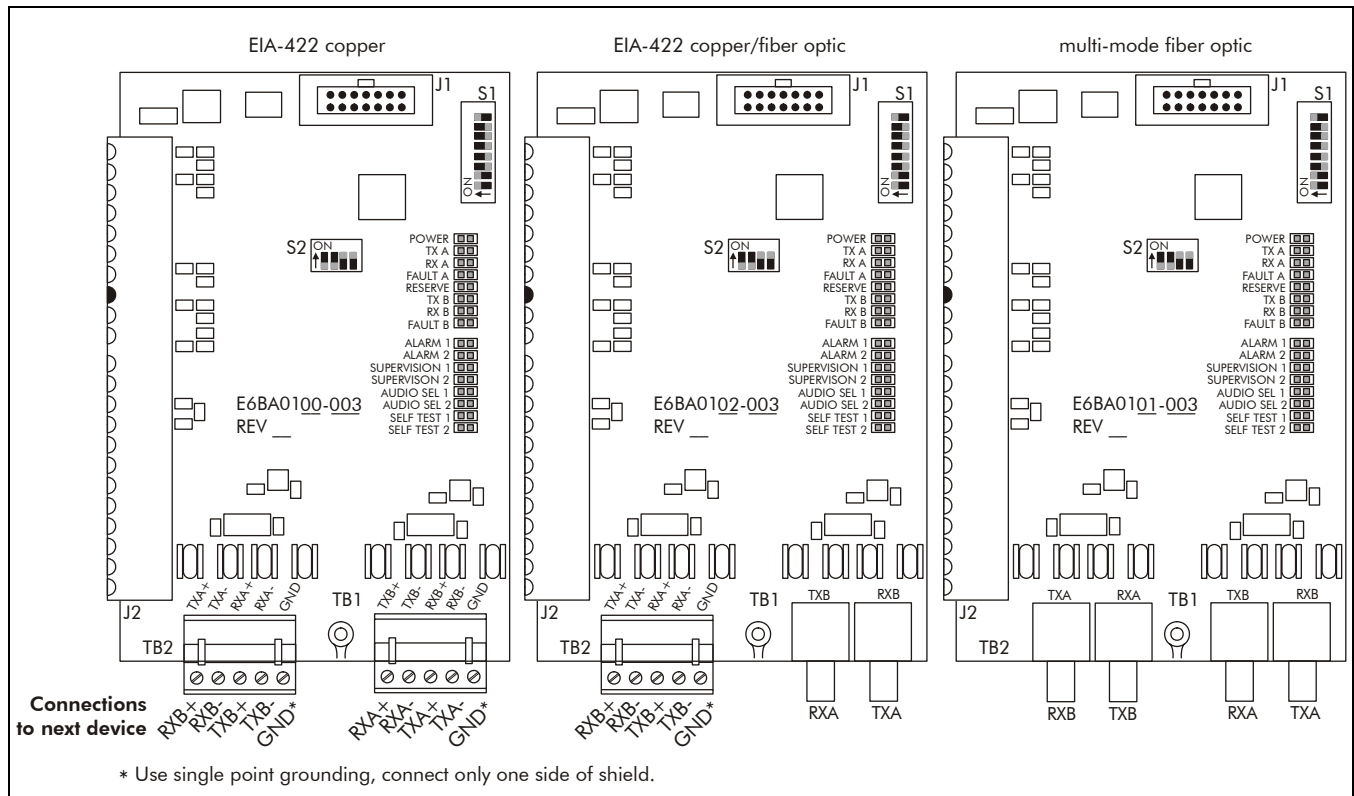

Figure 2-16 Network communication wiring connections
4. Make the network wiring connections according to Figure 2-16.
8. For multi-mode fiber optic cable make the wiring connections according to Figure 2-16.